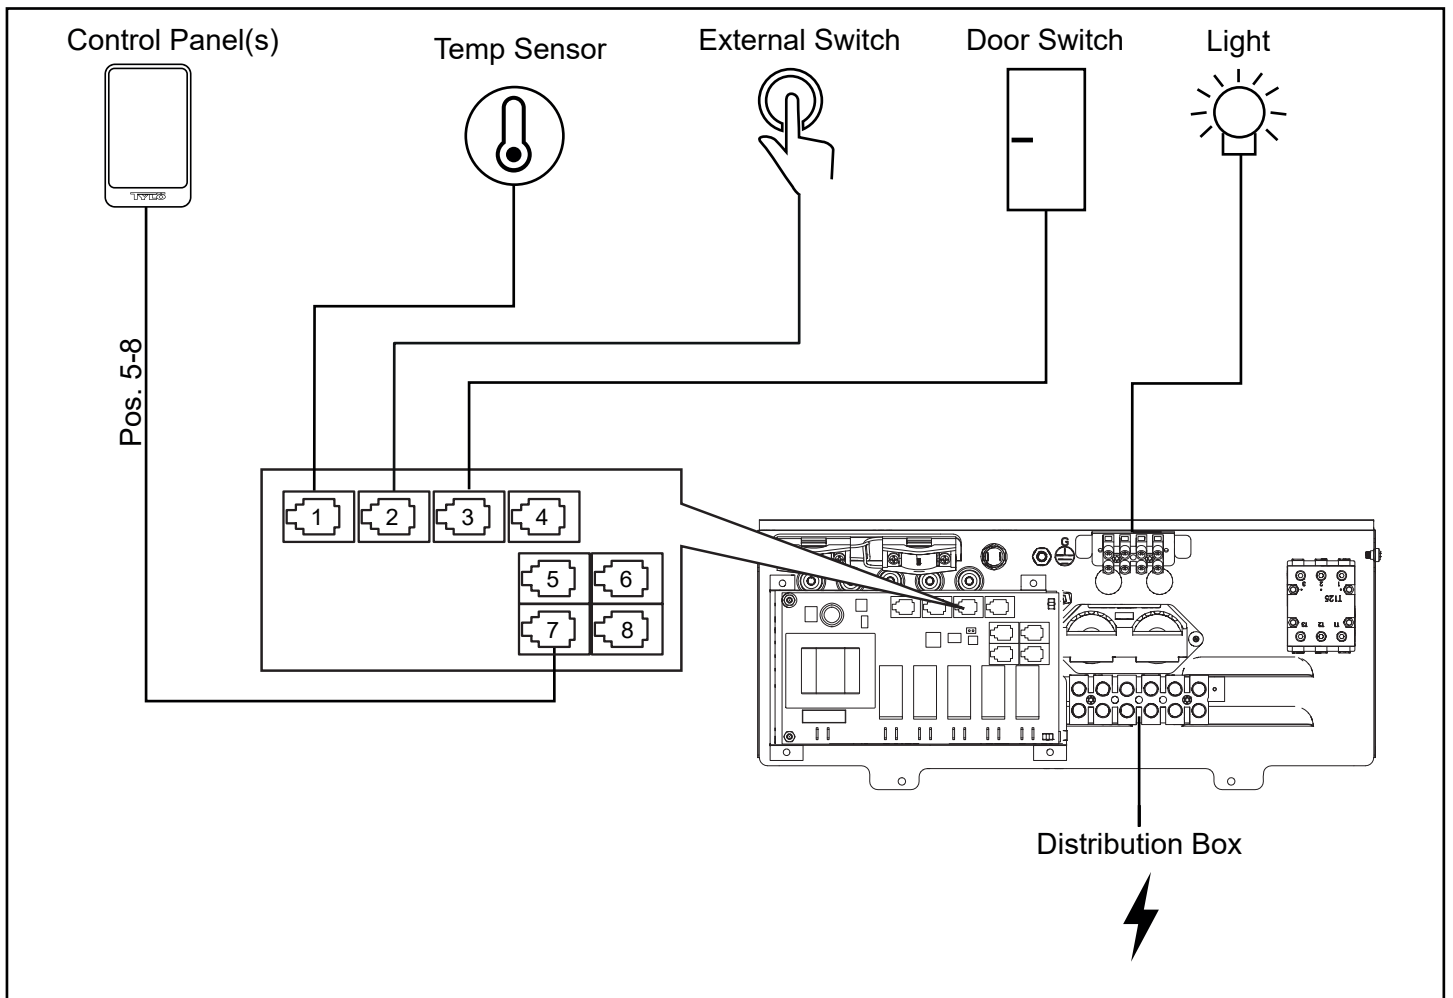

Figure 18. Schematic diagram of installation Sense Pure
4. Run the cables for the control panel and the temperature sensor through the cable grommets (see Figure 9). Connect the control panel cable to one of the four RS485 contacts (positions 5-8) (see Figure 18).
5. Connect the sensor cable to the NTC contact on the circuit board (position 1) (see Figure 18).